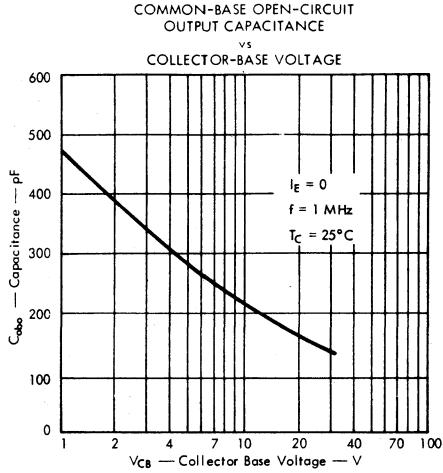

FIGURE 5
5. This rating is based on the capability of the transistor to operate safely in the circuit of Figure 5, condition 1.  $L = 180 \mu\text{H}$ ,  $R_{BB2} = 20 \Omega$ ,  $V_{BB2} = 4$  V,  $R_S = 0.1 \Omega$ ,  $V_{CC} = 10$  V, Energy =  $I_C^2 L/2$ .